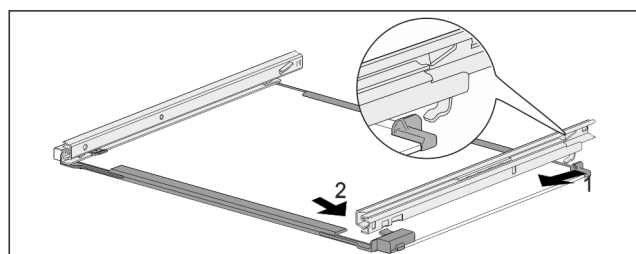

Fig. 151 Glass shelf with rails
- Hook in rail at the back. Fig. 151 (1)
- Hook in rail at the front. Fig. 151 (2)